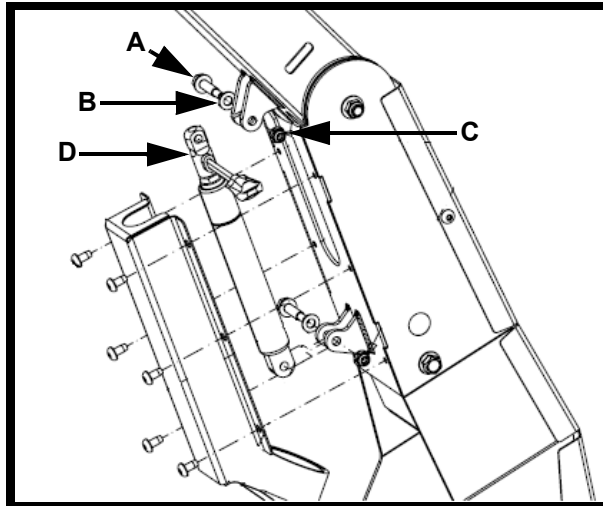

FIGURE 2
7. Remove the hex shoulder screw (**A**), flat washer (**B**) and 14-20 flange nut (**C**) from the tilt cylinder (**D**) at the upper column connection. Separate the tilt cylinder from the See Figure 2. Retain all hardware.